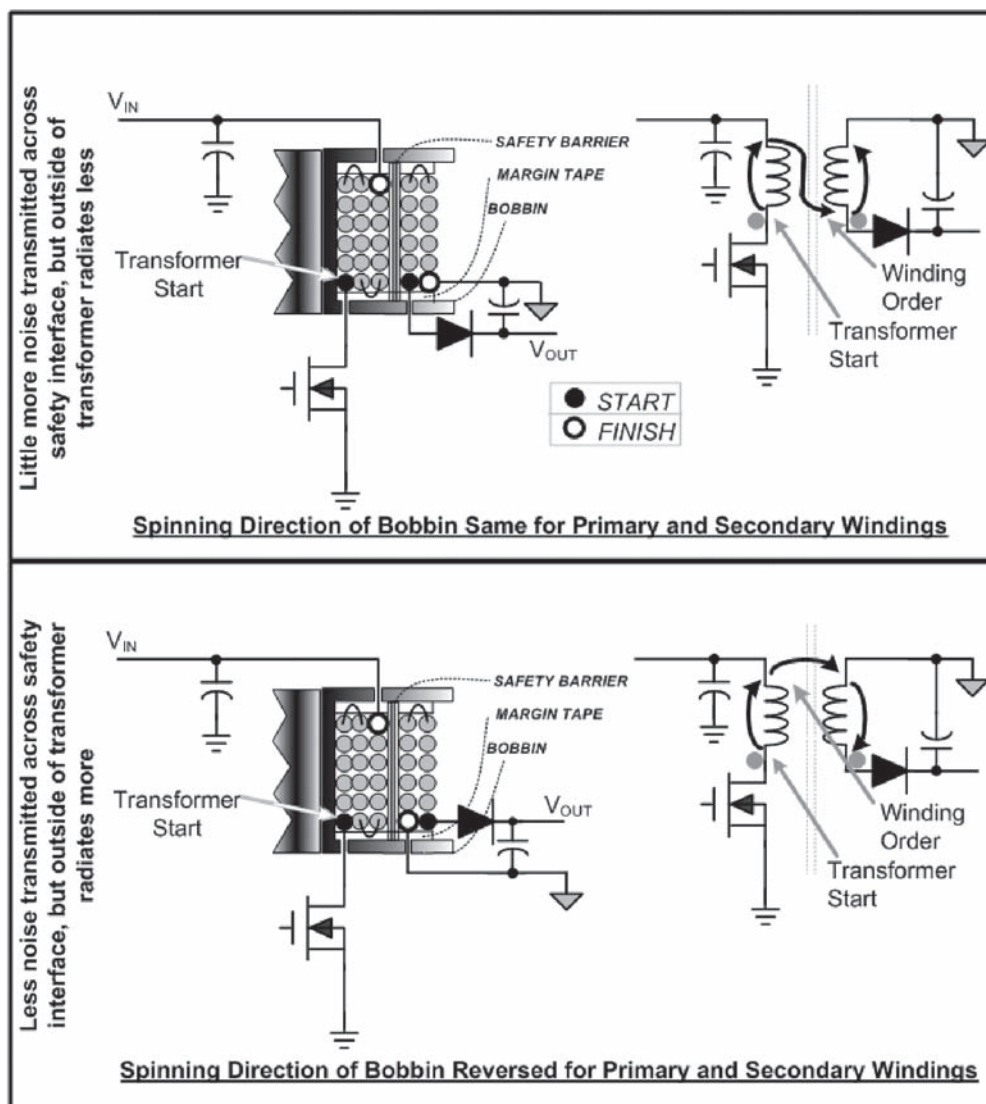
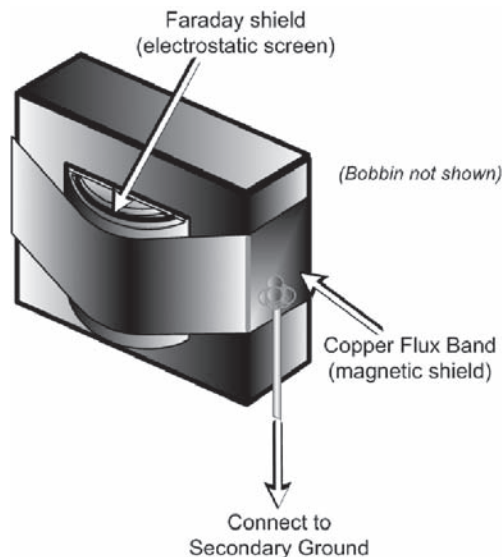
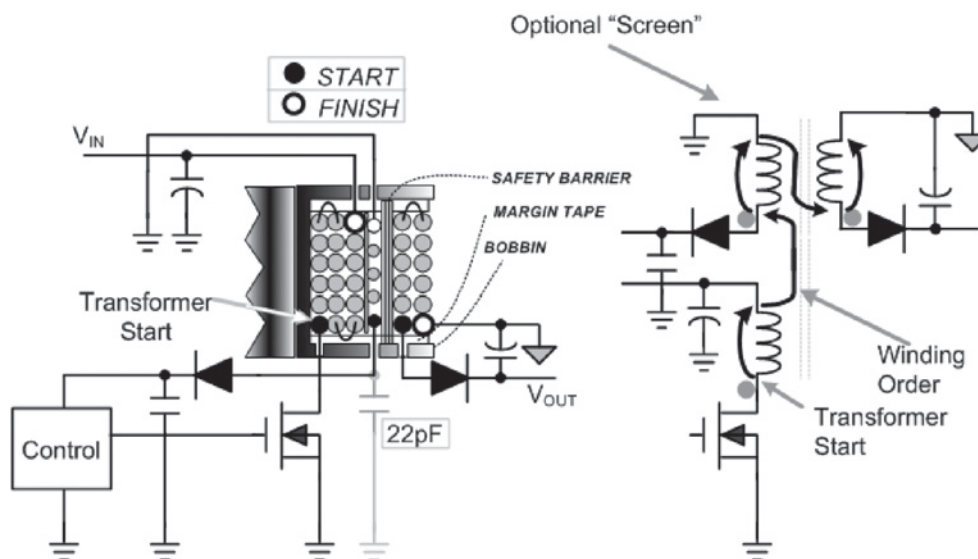

Figure 11-5 Two Alternative Low-noise Winding Arrangements for a Flyback Transformer
Figure 11-6 A Flux Band to Suppress Radiated Noise from a Transformer
Figure 11-7 Using the Auxiliary Primary-side Winding to Act like a Faraday Shield
Figure 11-5 reveals two *low-noise construction techniques*, as applied to a typical flyback transformer. We should compare the right-hand electrical schematic with its equivalent winding version to the left. In the discussion below, we note that though transformers with split windings are not being explicitly discussed here, the same principles can be easily extended and applied to them, too. Here are some observations:
end of the next winding. This means that for the flyback transformer in the upper half of Figure 11-5, the diode end of the Secondary winding will *necessarily fall adjacent to the safety barrier* (also called “safety interface” or “isolation boundary”). Yes, because of that we will have a certain amount of dV/dt still present *across* the barrier. But note that this dV/dt is *much smaller than if the Drain end of the Primary winding were brought adjacent to the safety barrier.*
However, the transformer now has the advantage that the “quiet end” (ground) of the Secondary winding is now the *outermost* layer. That is by itself a good shield to prevent radiation from emanating from the transformer. Consider the alternative. Suppose we had wound the transformer the “wrong way,” that is, by reversing *all* the start and finish ends shown in the upper half of Figure 11-5. That would have brought the Drain end of the Primary winding right next to the safety barrier, with the Secondary ground end (which is usually connected to the chassis) directly across the isolation boundary. With this winding arrangement, we would have a healthy dose of CM noise injected directly into the chassis/earth.
- The approach shown in the lower half of Figure 11-5 calls for the winding directions to be reversed in production between Primary and Secondary windings (some call that “unproductionizable!”). But that allows both the quiet ends of the windings to face each other at the safety interface. The amount of CM noise transmitted across the boundary is very low. This is one of the tricks I had evolved for the wish list. The outside of the transformer is then not very quiet, and so a “flux band” is required as shown in Figure 11-6. In the wish list Flyback, I had actually used the same principle but with a foil winding for the 5V/7A output. The 12V/2.5A winding was not of foil, but I had wound it sort of “bifilar” with the 5V foil, so that the foil would shield noise emanating from that winding, too.
- Another trick I evolved at that time was to use the primary-side IC supply winding to act as a Faraday shield. This is shown in Figure 11-7. Basically, both ends are AC coupled to Primary ground and help sink the noise being capacitively transmitted out of the main Primary winding. Therefore, much less CM noise gets transmitted to the secondary. The technique as shown is applied to the upper half of Figure 11-5, but it can easily be applied to the lower half, too. The disadvantage of using a conventional Faraday shield is that it greatly increases the leakage inductance, and thereby affects the efficiency. That is the reason why we *never* used any (conventional) shields inside our Flyback transformers. Though flux bands we did, *always*.